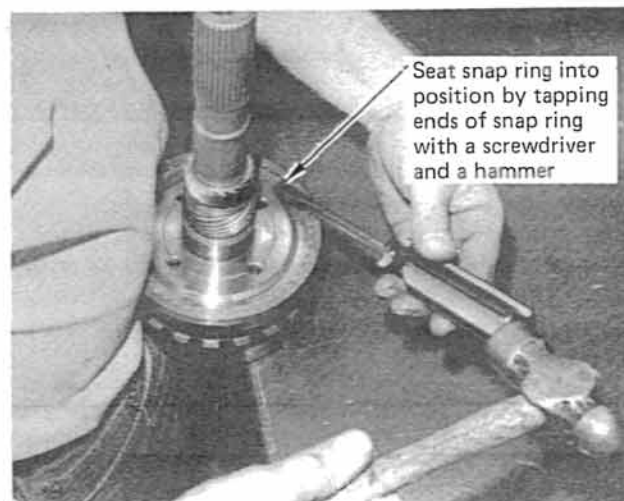

FIGURE 40
**STEP 5.** Install output shaft into output carrier engaging splines and pushing down until it bottoms out. Some rocking action may be necessary. Install output shaft snap ring into groove. If your transmission has a beveled snap ring, **it must be installed with the bevel out**. After the snap ring is installed in its groove, seat it by tapping each end of the snap ring firmly with a hammer and screwdriver. (See Fig. 40) If your output shaft has an O-ring seal, replace it with the O-ring in the kit.